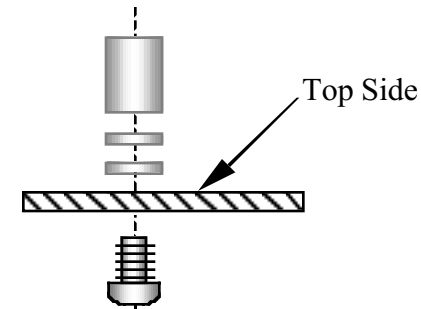

Figure 5-6
- ☐ Install a 3/16" (4.8 mm) diameter x 1/4" (6.4 mm) long round standoff on the top of the board (Figure 5-6). The hole for this standoff is just below the large hole. Use *two* #4 split lock washers and a 1/4" (6 mm) pan-head screw (not black anodized) as shown. Insert the lock washers between the standoff and PC board.